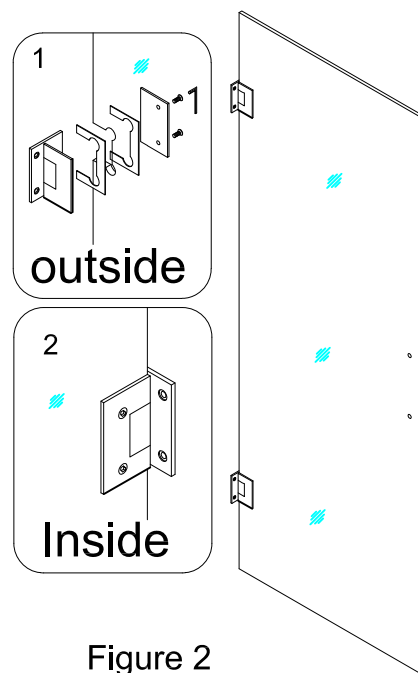

Figure 2
2. Remove pre-installed screws from pre-assembled Hinges (05).
Attach the Hinges (05) to Glass door (01). The smooth flat surface of Hinge (05) should be installed on outside of glass door. See Figure 2 for details.